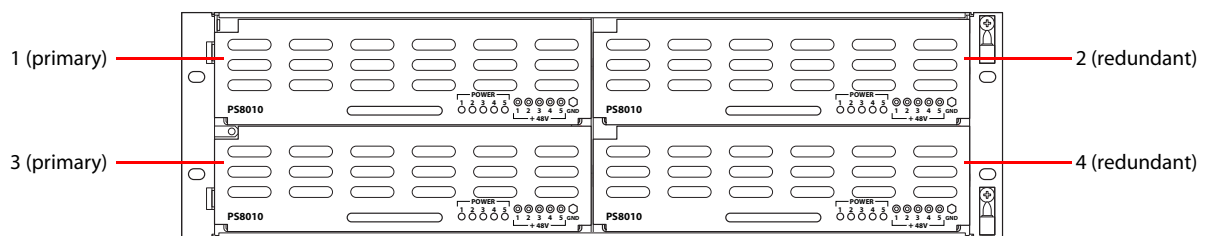

Figure 2-36. NV8000 Power Supply (Front View)
- At the front of the NV8000, install *primary* PS8100 power supply modules in slots 1 and 3, as shown in Figure 2-36.
- Optionally, install *redundant* PS8100 power supply modules in slots 2 and 4, as shown in Figure 2-36.